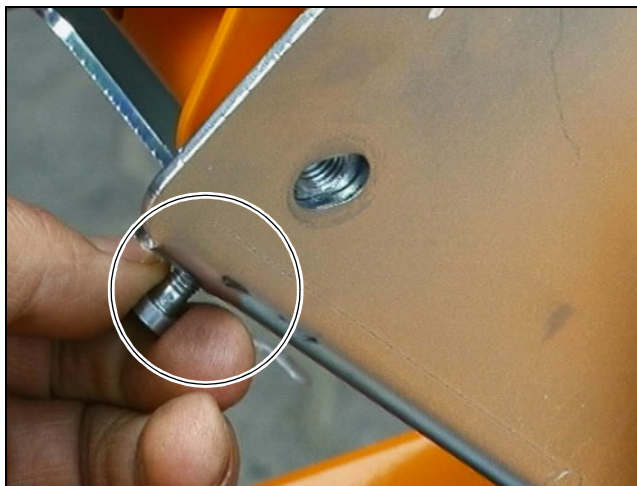

Fig. 5.13 M6 stop screw (not included in the delivery)
6. For fine tuning, a M 6 nut has been attached to the steel construction. This place can be used for screwing in a M 6 x 25 screw (Fig. 5.13) for definite stop!